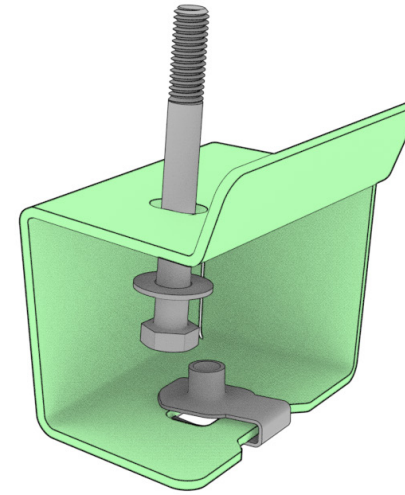

FIG 5
1.2 Pre-assemble Hardware: Insert a **3/8-16 X 3.5" Hex Head Screw** and **3/8" Flat Washer** up through the slot located on the top surface of each bracket (**FIG 5**).